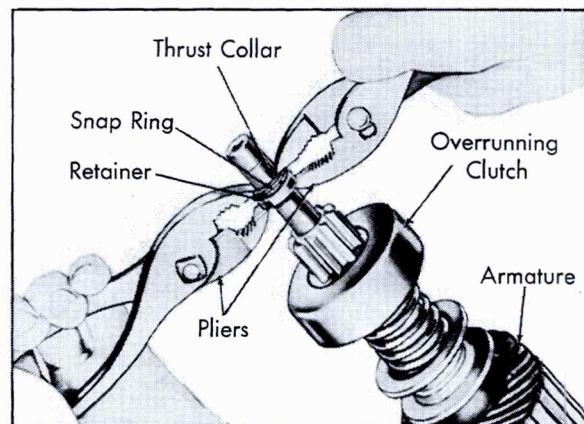

Fig. 6-19 Installing Snap Ring on Retainer
e. Assemble thrust collar on shaft with shoulder next to snap ring, Fig. 6-19.
f. Position retainer and thrust collar next to snap ring. Using two pairs of pliers, grip retainer and thrust collar and squeeze until snap ring is forced onto retainer, Fig. 6-19.